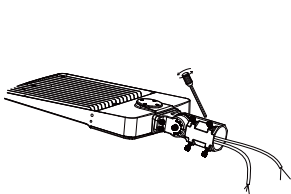

Figure 1-1
1. ADJUSTABLE FITTER MOUNTING (AM)
Step 1: Loosen the 4 screws on the bracket with a screwdriver and make ensure that the bracket can fit into the light pole, Figure 1-1;